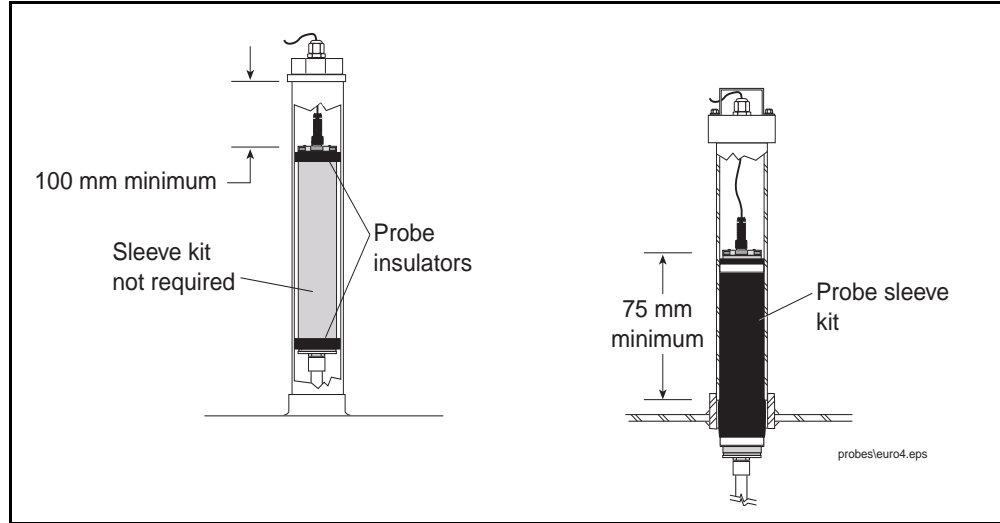

Figure 6. Probe canister sleeve kit installation
- Wherever possible, the probe canister should be completely contained within the 3-inch riser. If this is not possible, a probe sleeve kit must be used. Probe sleeve kits provide both electrical insulation and lateral stability for the probe (see Figure 6).